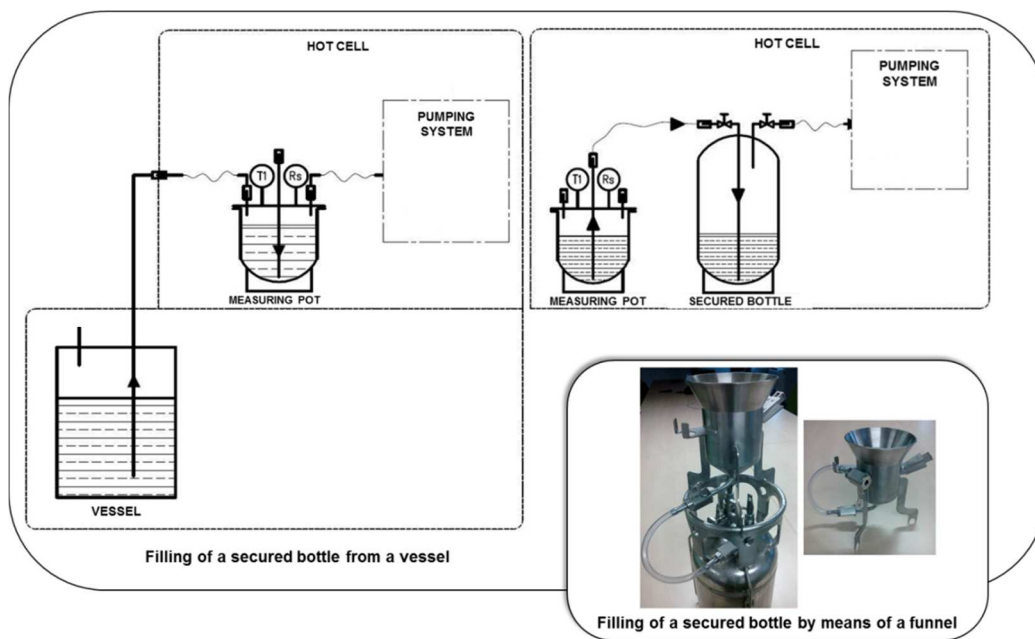

Figure 4: Filling the secured bottle in a hot cell
- filling the secured bottle in shielded line A (*Cf. figure 4*) :